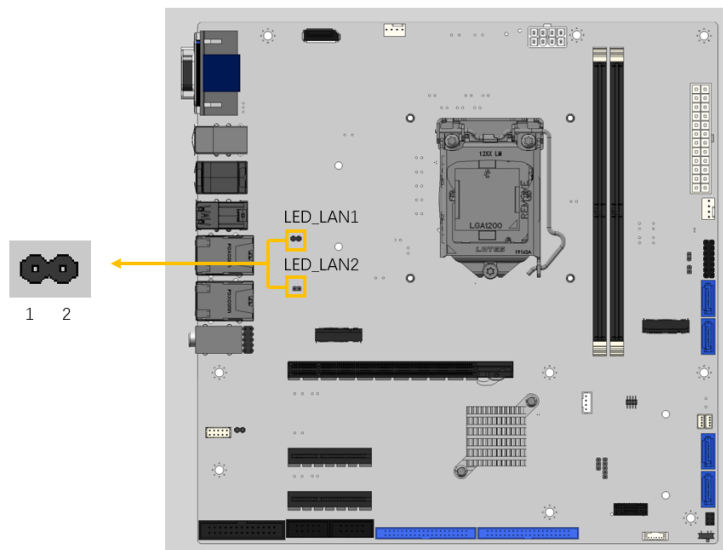

Figure 3-20: LAN LED Connector Locations
- CN Location:** See **Figure 3-20**